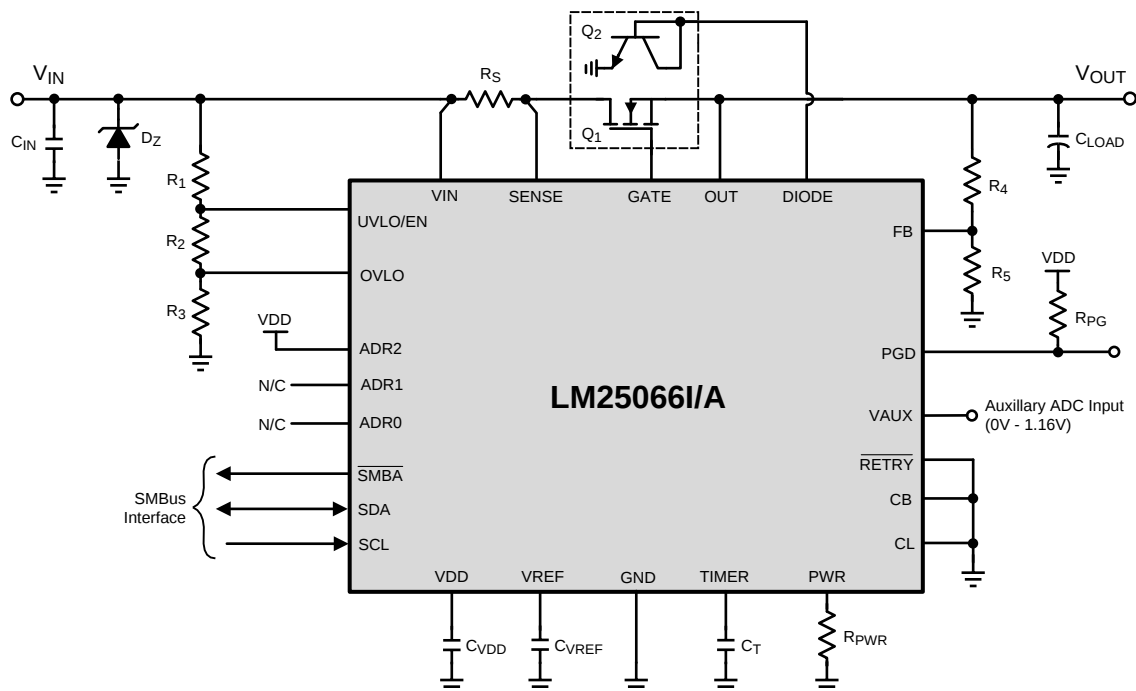
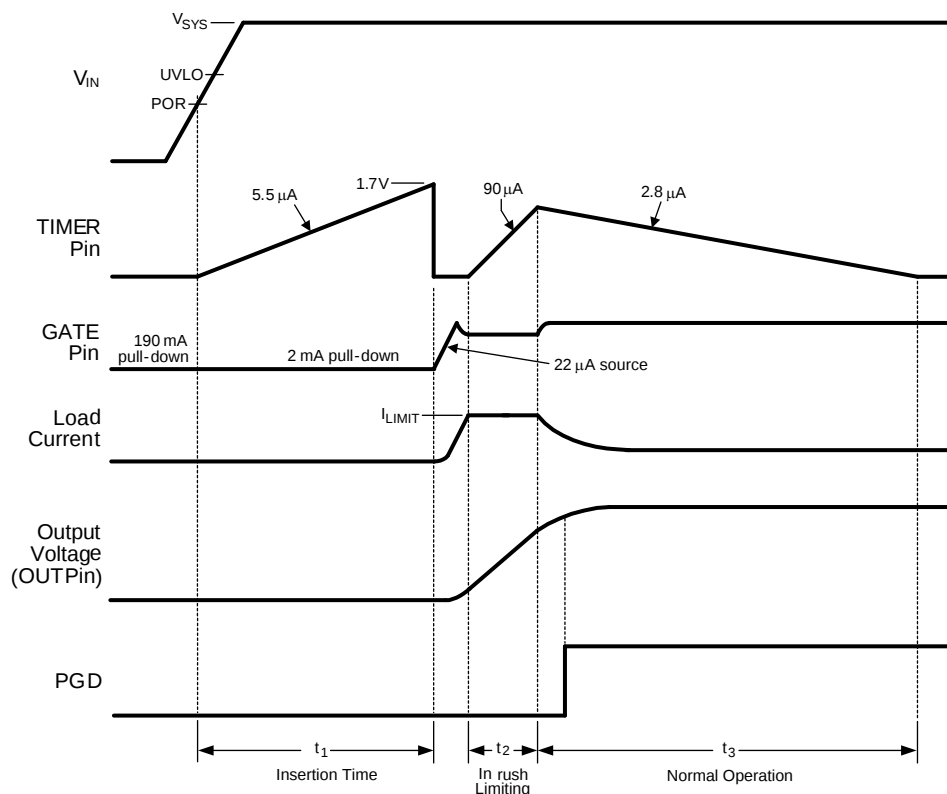

Figure 31. Typical Application Circuit
Figure 32. Power Up Sequence (Current Limit Only)
The V_{IN} operating range of the LM25066I/A is +2.9V to +17V, with transient capability to +24V. Referring to Figure 31 and Figure 32, as the voltage at V_{IN} initially increases, the external N-channel MOSFET (Q_1) is held off by an internal 190 mA pulldown current at the GATE pin. The strong pulldown current at the GATE pin prevents an inadvertent turn-on as the MOSFET’s gate-to-drain (Miller) capacitance is charged. Additionally, the TIMER pin is initially held at ground. When the V_{IN} voltage reaches the POR threshold, the insertion time begins. During the insertion time, the capacitor at the TIMER pin (C_T) is charged by a 5.5 μA current source and Q_1 is held off by a 2 mA pulldown current at the GATE pin regardless of the input voltage. The insertion time delay allows ringing and transients at V_{IN} to settle before Q_1 is enabled. The insertion time ends when the TIMER pin
As the voltage at the OUT pin increases, the LM25066I/A monitors the drain current and power dissipation of MOSFET Q_1 . Inrush current limiting and/or power limiting circuits actively control the current delivered to the load. During the inrush limiting interval (t_2 in Figure 32), an internal 90 μ A fault timer current source charges C_T . If Q_1 's power dissipation and the input current reduce below their respective limiting thresholds before the TIMER pin reaches 1.7V, the 90 μ A current source is switched off and C_T is discharged by the internal 2.8 μ A current sink (t_3 in Figure 32). The PGD pin switches high when FB exceeds its rising threshold of 1.167V.
A charge pump provides the voltage at the GATE pin to enhance the N-Channel MOSFET's gate. During normal operating conditions (t_3 in Figure 32) the gate of Q_1 is held charged by an internal 22 μA current source. The voltage at the GATE pin (with respect to ground) is limited by an internal 18.8 V zener diode. See the graph "GATE Pin Voltage" shown previously. Since the gate-to-source voltage applied to Q_1 could be as high as 18.8 V during various conditions, a zener diode with the appropriate voltage rating must be added between the GATE and OUT pins if the maximum V_{GS} rating of the selected MOSFET is less than 18.8 V. The external zener diode must have a forward current rating of at least 190 mA. When the system voltage is initially applied, the GATE pin is held low by a 190 mA pulldown current. This helps prevent an inadvertent turn-on of the MOSFET through its drain-gate capacitance as the applied system voltage increases.
During the insertion time (t_1 in Figure 32) the GATE pin is held low by a 2 mA pulldown current. This maintains Q_1 in the off-state until the end of t_1 , regardless of the voltage at VIN or UVLO. Following the insertion time (t_2 in Figure 32), the gate voltage of Q_1 is controlled to keep the current or power dissipation level from exceeding the programmed levels. While in the current or power limiting mode, the TIMER pin capacitor is charging. If the current and power limiting cease before the TIMER pin reaches 1.7V, the TIMER pin capacitor then discharges, and the circuit begins normal operation. If the inrush limiting condition persists such that the TIMER pin reached 1.7V during t_2 , the GATE pin is then pulled low by the 190 mA pulldown current. The GATE pin is then held low until either a power up sequence is initiated (RETRY pin to VDD), or an automatic retry is attempted (RETRY pin to GROUND). See Fault Timer and Restart. If the system input voltage falls below the UVLO threshold or rises above the OVLO threshold, the GATE pin is pulled low by the 2 mA pulldown current to switch off Q_1 .
When the current limit or power limit threshold is reached during turn-on, or as a result of a fault condition, the gate-to-source voltage of Q_1 is controlled to regulate the load current and power dissipation in Q_1 . When either limiting function is active, a 90 μ A fault timer current source charges the external capacitor (C_T) at the TIMER pin as shown in Figure 32 (Fault Timeout Period). If the fault condition subsides during the Fault Timeout Period before the TIMER pin reaches 1.7V, the LM25066I/A returns to the normal operating mode and C_T is discharged by the 1.9 mA current sink. If the TIMER pin reaches 1.7V during the Fault Timeout Period, Q_1 is switched off by a 2 mA pulldown current at the GATE pin. The subsequent restart procedure then depends on the selected retry configuration.
A) Insertion Delay -Upon applying the system voltage (V_{SYS}) to the circuit, the external MOSFET (Q_1) is held off during the insertion time (t_1 in Figure 32) to allow ringing and transients at V_{SYS} to settle. Since each backplane's response to a circuit card plug-in is unique, the worst case settling time must be determined for each application. The insertion time starts when VIN reaches the POR threshold, at which time the internal 5.5 μA current source charges C_T from 0V to 1.7V. The required capacitor value is calculated from: